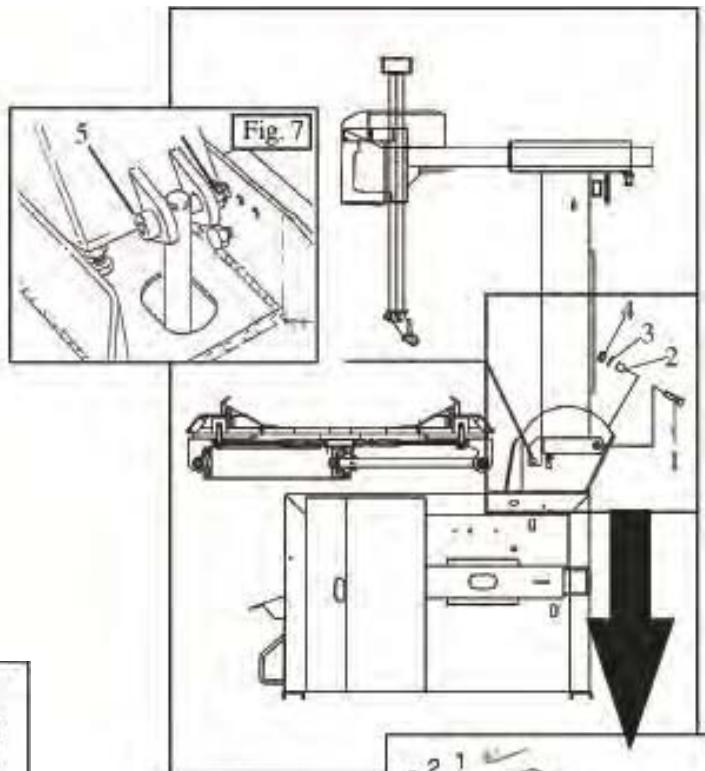

Fig. 6
- Set the rear articulation pin (1) and the washers (2) and tighten the screws (3). Fig. 6.